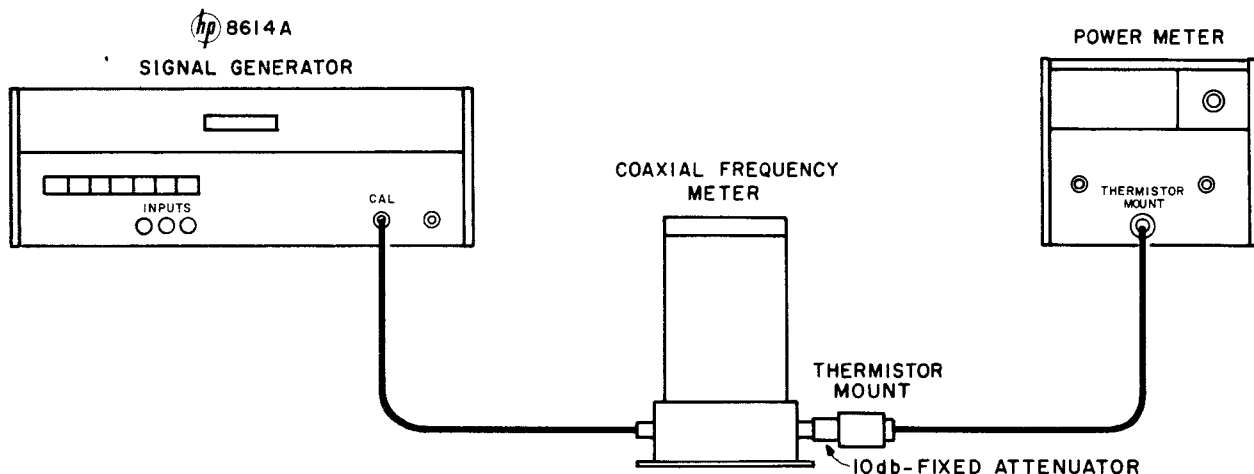

Figure 5-1. Frequency and Power Measurement
a. Connect equipment as shown in Figure 5-1.
a. Connect instruments as shown in Figure 5-1, omitting the frequency meter.
a. Connect instruments as shown in Figure 5-1, omitting the frequency meter and attenuator.